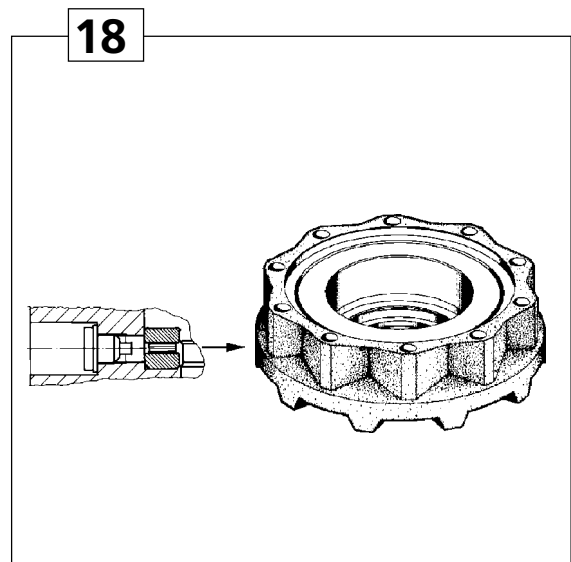

Fig. 18
- 1) Inspect magnetic plug every 1000 hours. (See fig. 18.)